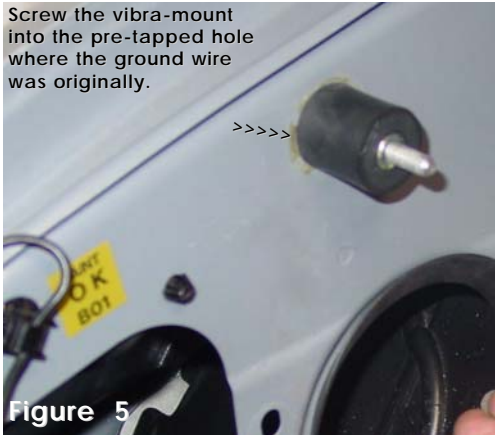

Figure 5
- 5- Take the vibra-mount and screw it into the pre-tapped hole on the inside of the fender well. This is the location where the stock ground wire once was. (See fig. 5)